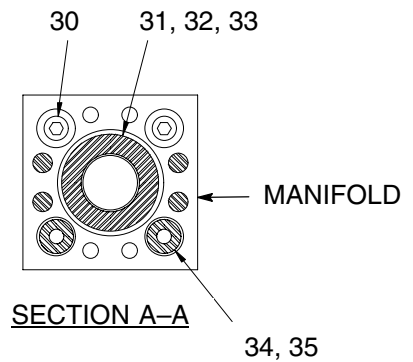

Fig. 11
NOTE: Pipe plug (30), material valve connector (31), backup rings (32), o-rings (33), two conditioning fluid connectors (34), and four o-rings (35) are part of the manifold assembly. See Fig. 11.